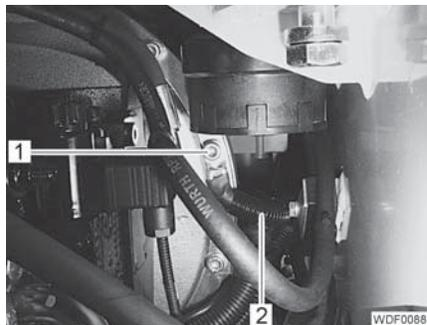

Fig. 23 Clutch bell attachment
- Unscrew the 11 screws (Fig. 23,1) for securing the clutch bell.
- Remove the grounding strips (Fig. 23,2).